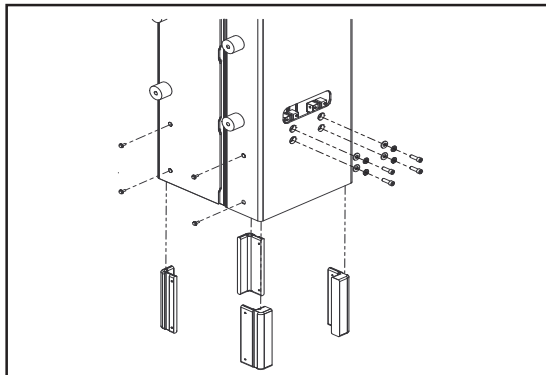

Figure 5-38. Mast 4 Installation Procedure
2. Install the front wear pads, then the back ones. (Use Loctite 770 or equivalent on the wear pad holes, and Loctite 431 or equivalent on the wear pad bolts). See Figure 5-38.